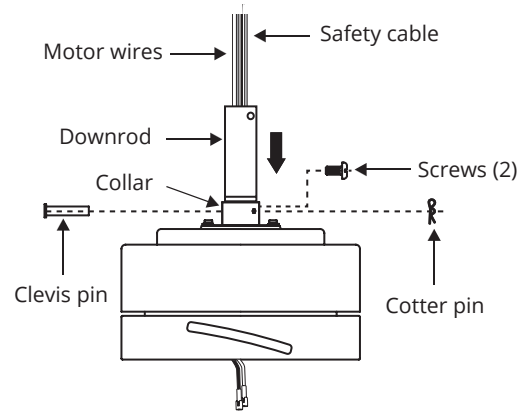

FIGURE 9
2. Remove the clevis pin and cotter pin, and loosen the two collar screws from the motor collar. (Fig. 9)
3. Carefully feed the motor wires and safety cable up through the downrod. Thread the downrod into the collar. (Fig. 9)
4. Align the holes of downrod and collar and insert the cotter pin and clevis pin. Tighten the two collar screws. (Fig. 9)